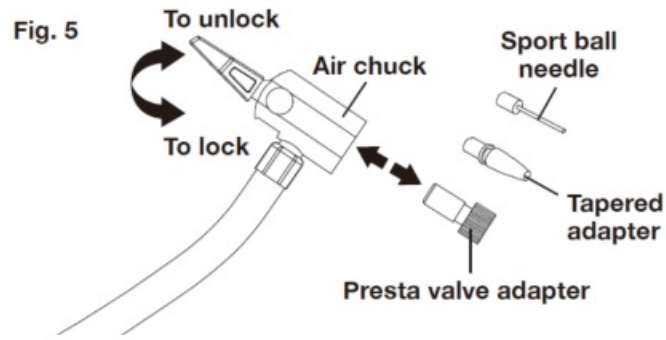

Fig. 6
Inflating with the Air Hose and Adapters (Fig.6)
Insert adapter into air chuck and push air clamp down until it locks into place (Fig. 6).
2. To remove, lift air chuck clamp and remove adapter from air chuck (Fig. 6).